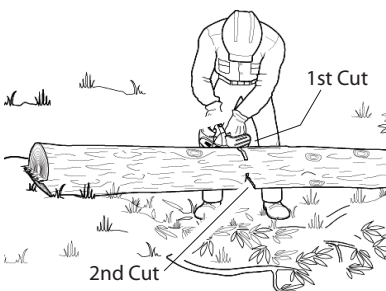

Figure 19 - Bucking Log When Log Is Supported On Both Ends
1. Make first cut from above log (see Figure 19). Cut 1/3 through diameter of log. This cut will keep section from splintering when cut.